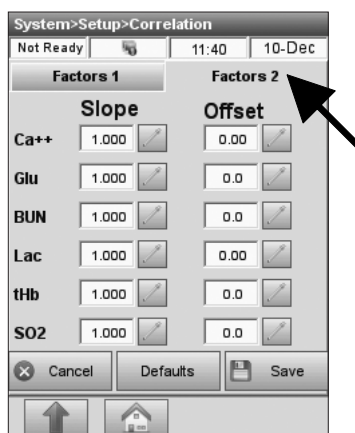

Fig. 3-42 Correlation Factors 2
4. Press **<Factors 2>** to go to the next screen (Fig. 3-42).
- NOTE: The factory setting is 1.0(00) for all slopes and 0.0(00) for the offsets. This deactivates the correlation factors.*